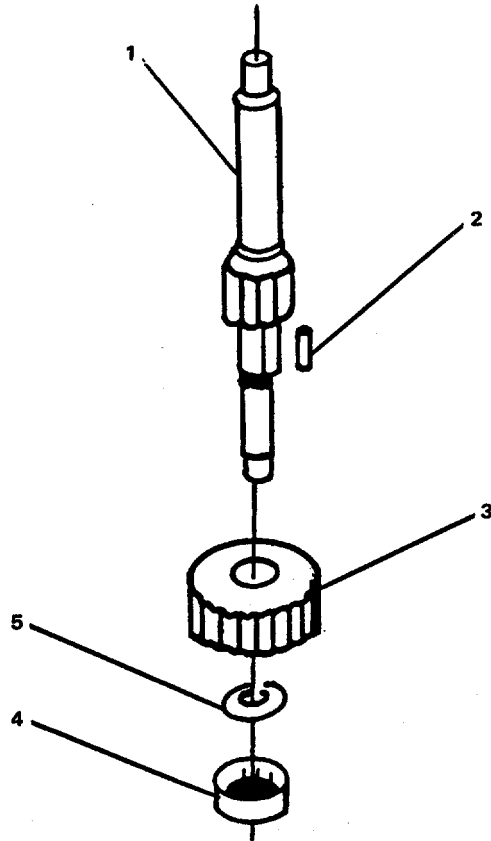

FIGURE 3-69. Repair Pinion Shaft Group.
**3-67. Repair Pinion Shaft Group. (Figure 3-69)**